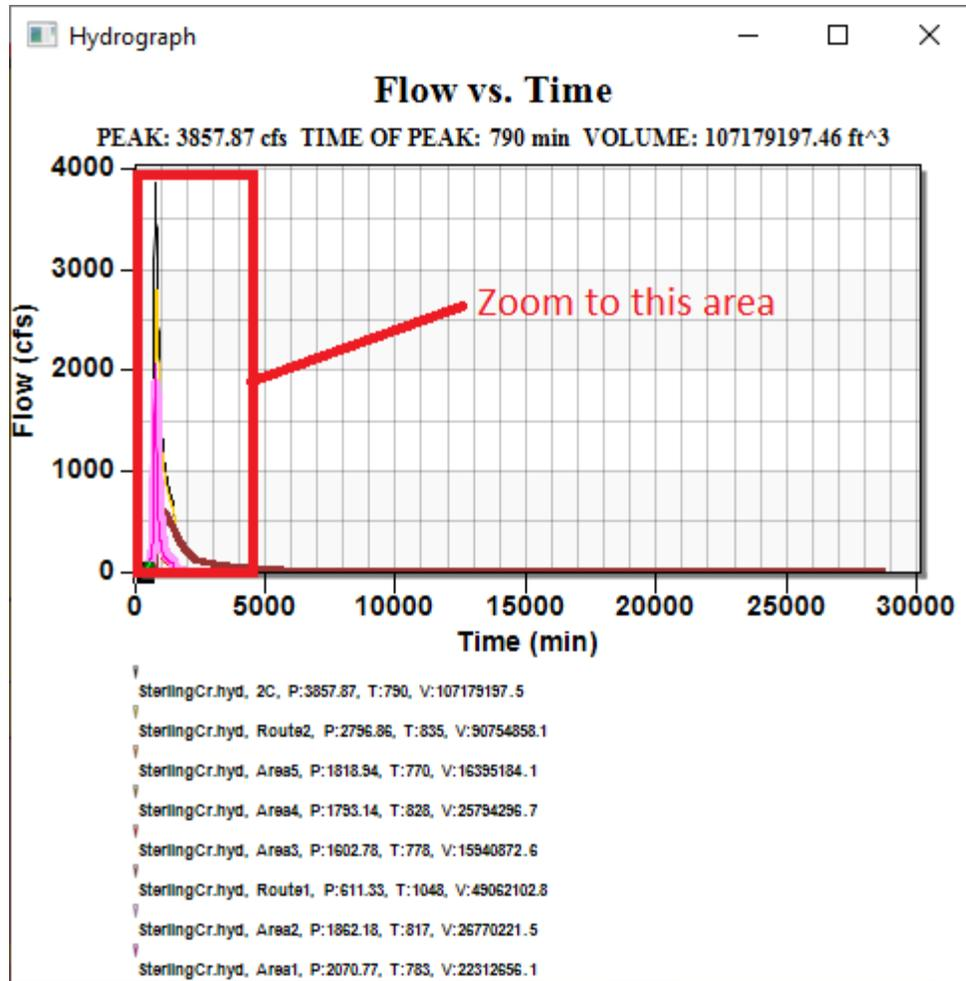

Figure 7 Zooming to the hydrograph
- If desired, resize the window to make it larger and left-click and drag in the hydrograph plot to zoom into the portion of the hydrograph where the peak flows occur as shown in Figure 7.